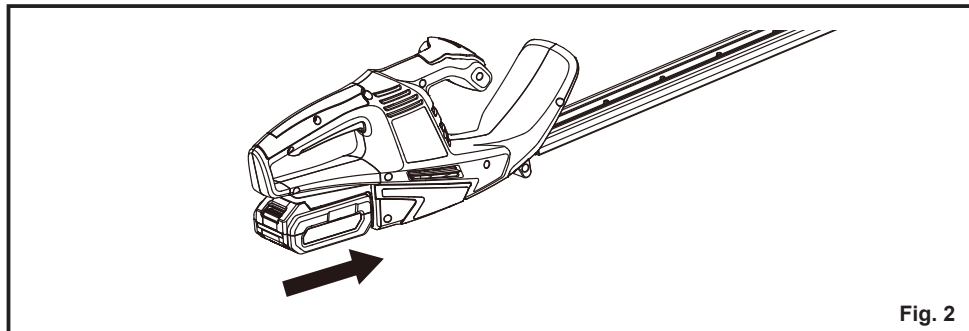

Fig. 2
2. Align the battery pack to the slots at the bottom side of the rear safety guard and slide it in until it locks in place (Fig. 2).